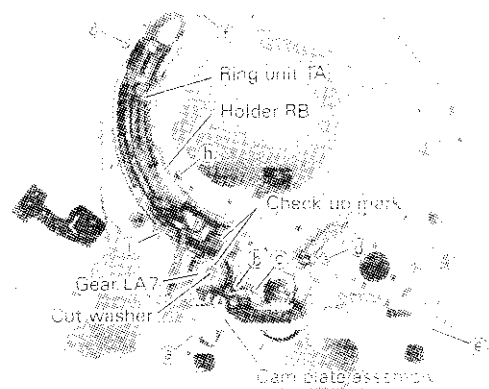

Fig. 3-21-1
- (1) Attach the cam plate assembly to the main plate and fix with five fixing screws (A, B, C, D, E) (See Fig. 3-21-1).
- (2) Attach the gear LA7 to the main plate and fix with the cut washer.